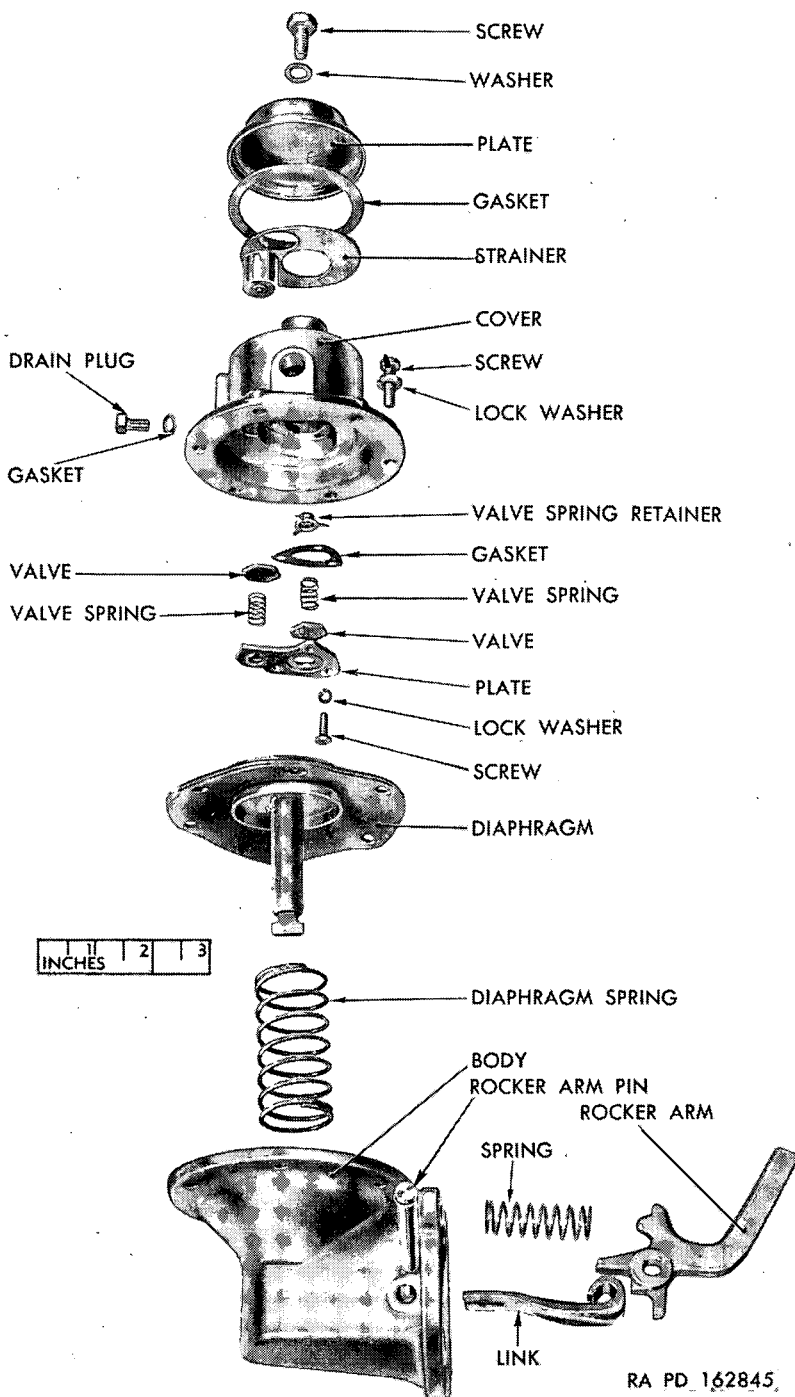

Figure 19. Fuel pump—disassembled (typical series T' construction).
- (1) Mark edges of top cover and body (fig. 19) of series T fuel pump (fig. 18) with a file. Mark at heat shield stud, if used. The parts may then be assembled in the same relative positions and heat shield stud properly located.
- (2) Remove cover screws and lock washers. Also remove heat shield stud, if used. Separate cover from body by jarring cover loose with a light plastic hammer.
#### *a. Assemble Body (fig. 19).*